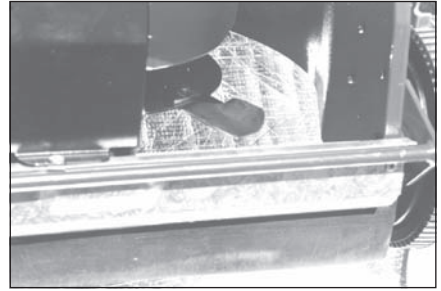

Figure 4 - Blade Change
3. Lift the rear flap and prop open to give access to the blades. (Figure 4).